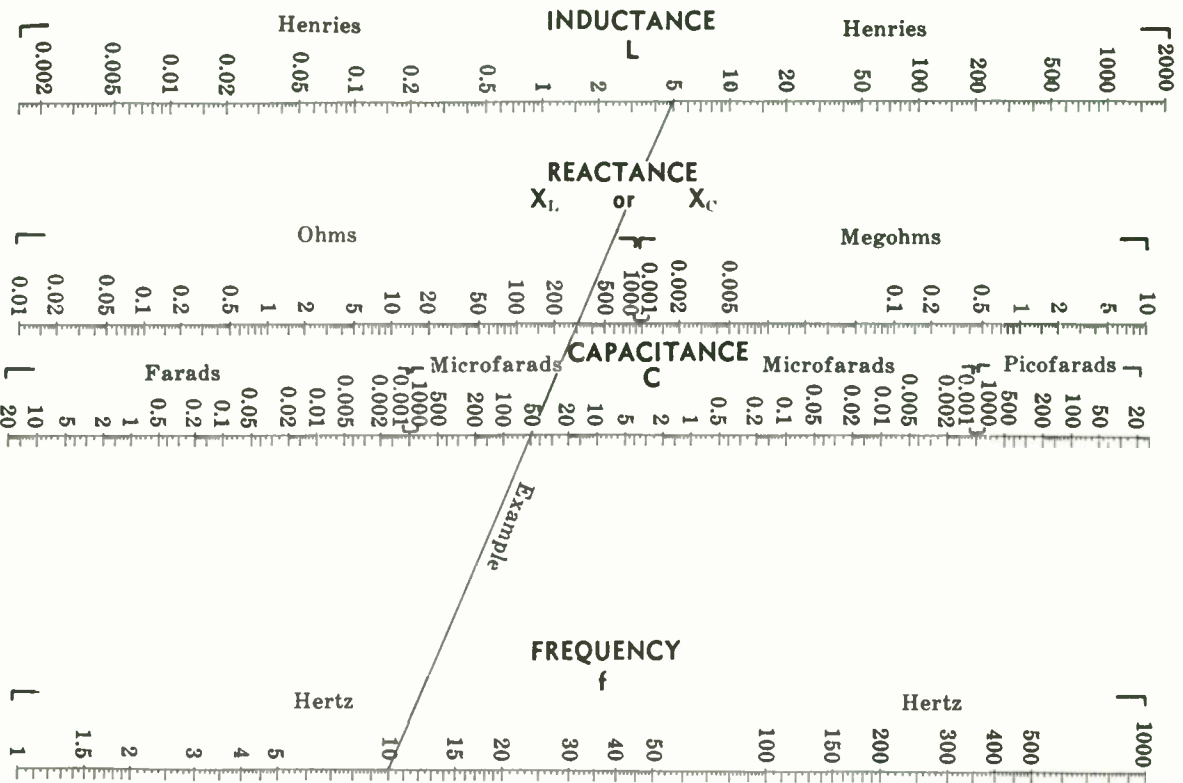

Fig. 23A.
Charts for determining unknown values of reactance, inductance, capacitance, and frequency are given in Figs. 23A, 23B, and 23C.
*Answer*—The reactance is 310 ohms. The inductance needed to produce this same reactance is 5 henrys. Thus, it follows that a 50- $\mu\text{F}$  capacitor and a 5-henry choke are resonant at 10 hertz. [Place the straightedge, on the proper chart (Fig. 23A), across 10 hertz and 50  $\mu\text{F}$ . Read the values indicated on the reactance and inductance scales.]